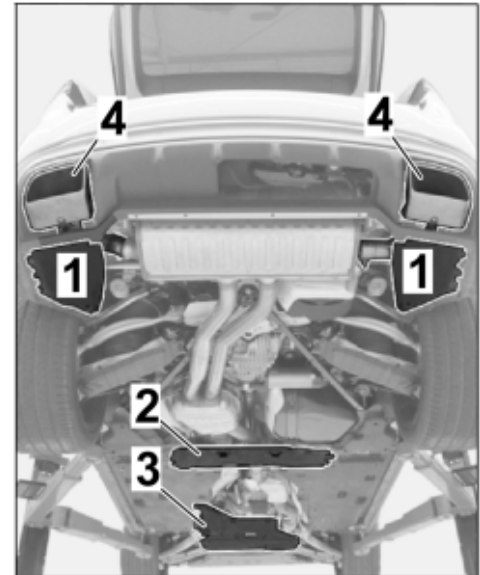

Figure 5
1.4.1 Remove the rear underbody cover and rear tunnel cover. ⇒ *Figure 5 -1 and 2-* ⇒ *Workshop Manual '519419A2 Removing and installing the rear underbody cover'*
1.4.2 Remove the tailpipe (left/right). ⇒ *Figure 5 -4-* ⇒ *Workshop Manual '263419A2 Removing and installing the tailpipe - TB5'*